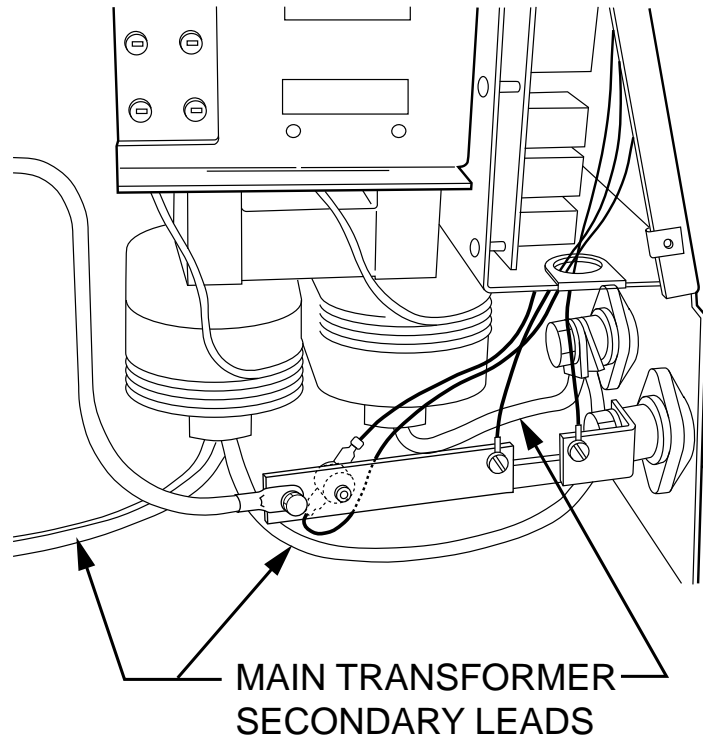

Figure F.21 Main Transformer Left Side
5. Locate main transformer and associated secondary leads, reactor leads, and shunt connections. See Figure F.21.